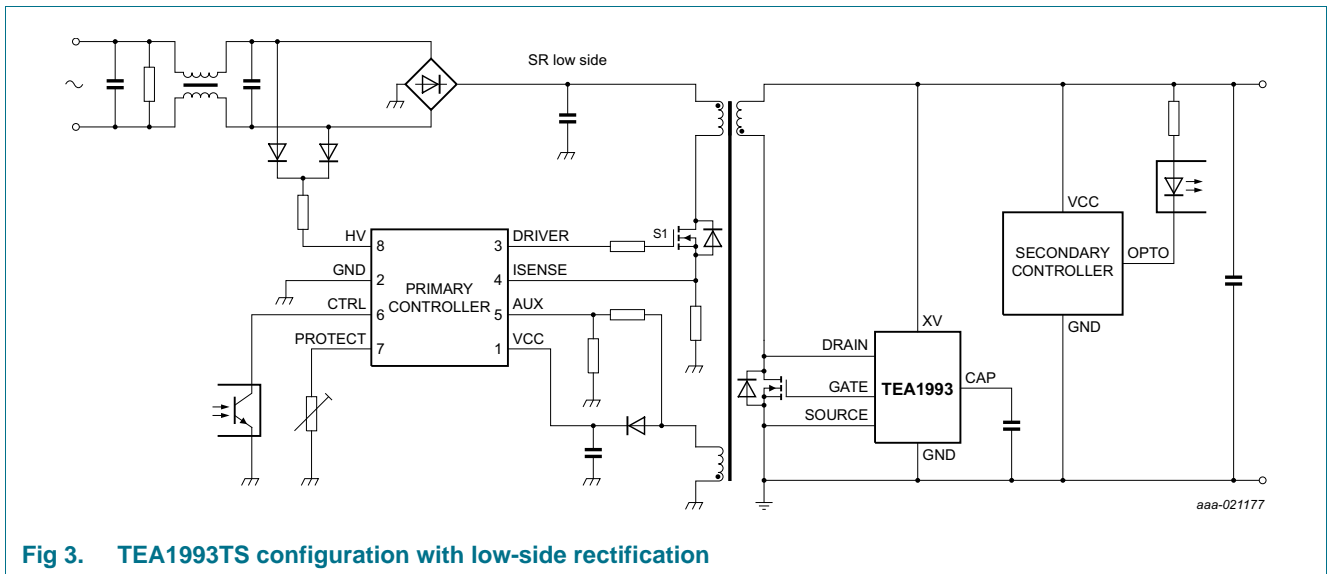
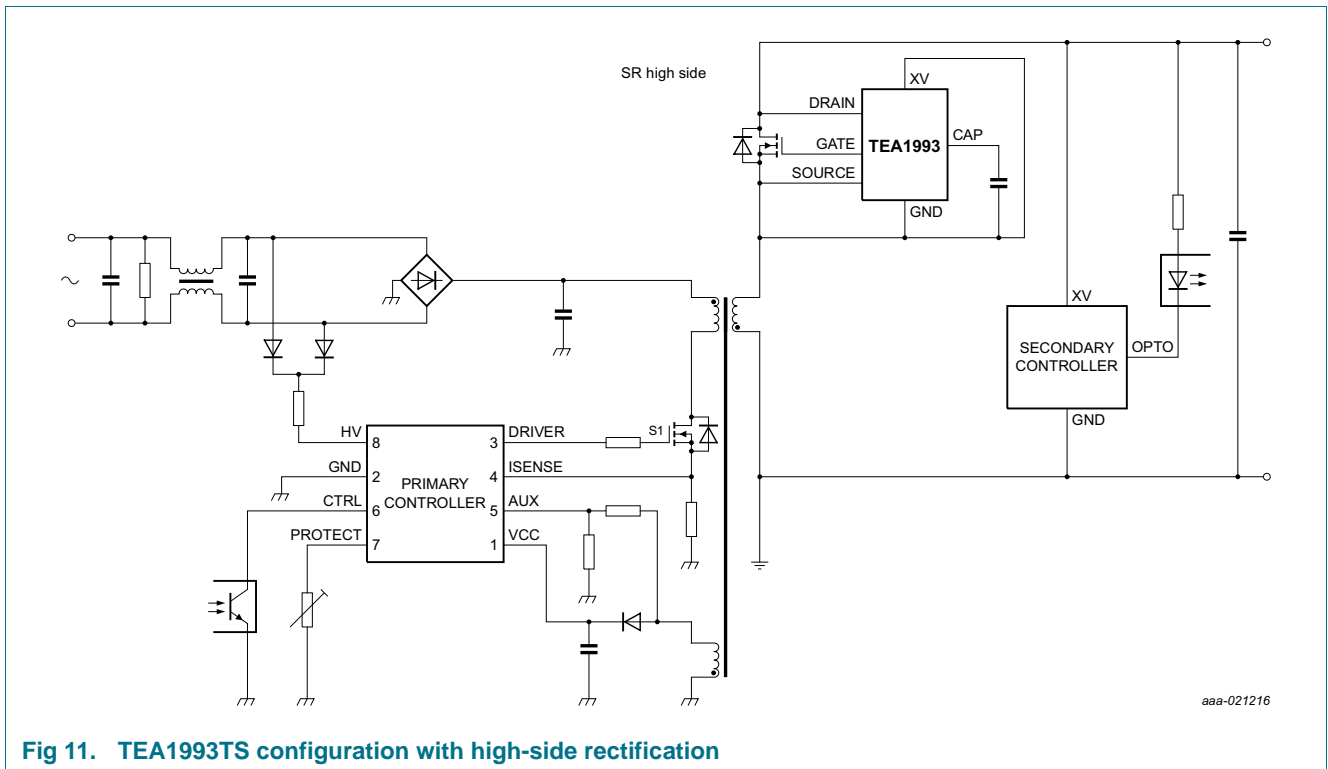

Fig 3. TEA1993TS configuration with low-side rectification
Fig 11. TEA1993TS configuration with high-side rectification
The TEA1993TS is a controller IC for Synchronous Rectification (SR) in flyback applications. It can drive the external synchronous rectifier MOSFET for the rectification of the voltage on the secondary winding of the transformer. Figure 3 shows a typical configuration.
A flyback switched mode power supply with the TEA1993TS consists of a primary side controller with a primary switch, a transformer, and an output stage. To obtain low conduction loss rectification, an SR MOSFET is used in the output stage. The SR MOSFET can be placed low-side (see Figure 3) or can be placed high-side (see Figure 11). In the high-side application, the TEA1993TS is self-supplying. The capacitor on the CAP pin supplies the TEA1993TS. When the drain voltage is positive, it is charged via the DRAIN pin.